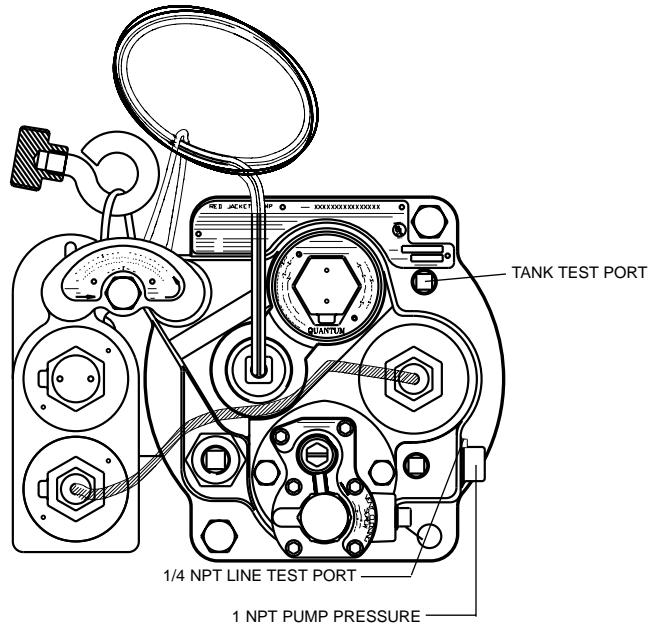

Figure 4.2 Line test port
- 1: Block lines at each dispenser. (Trip dispenser shear valve.) Remove line test plug for this test. (See Fig 4.2)
- 3: Apply line test pressure at line test port. (50 psi (345 kPa) maximum). (See Fig 4.2)
- 1: Close pump check valve by turning the vent closing screw as far down as possible. Apply tank test pressure at tank test port. (See Fig 4.2)